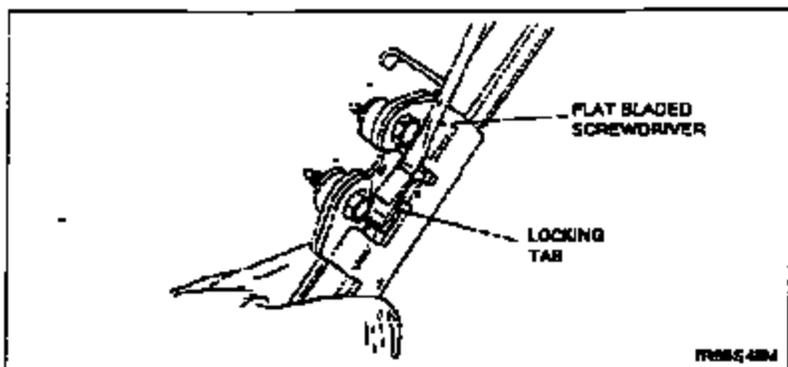

Figure 9
16. Using a small flat-bladed screwdriver, lift locking tab. See Figure 9.